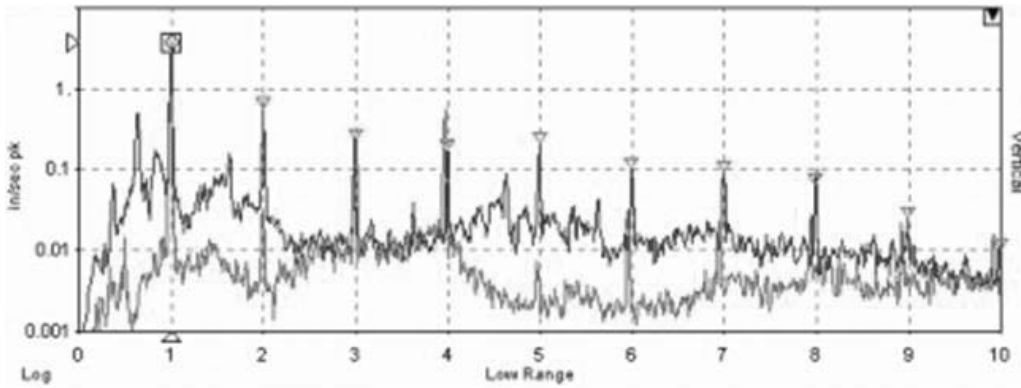

Figure 18-11 Look for changes in pattern and amplitude
- Look for changes in pattern such as new peaks, harmonics, sidebands and raised noise floor (Figure 18-11)